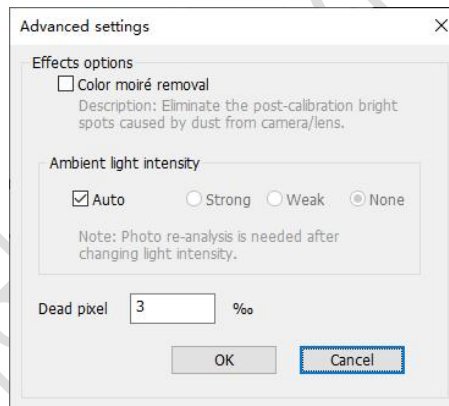

Fig.4-30 Effects settings for Canon camera (COB module)
- **COB:** If you have selected **COB** before, the available option in **Effects settings** will only include **Image dust off**. See Figure 4-30.